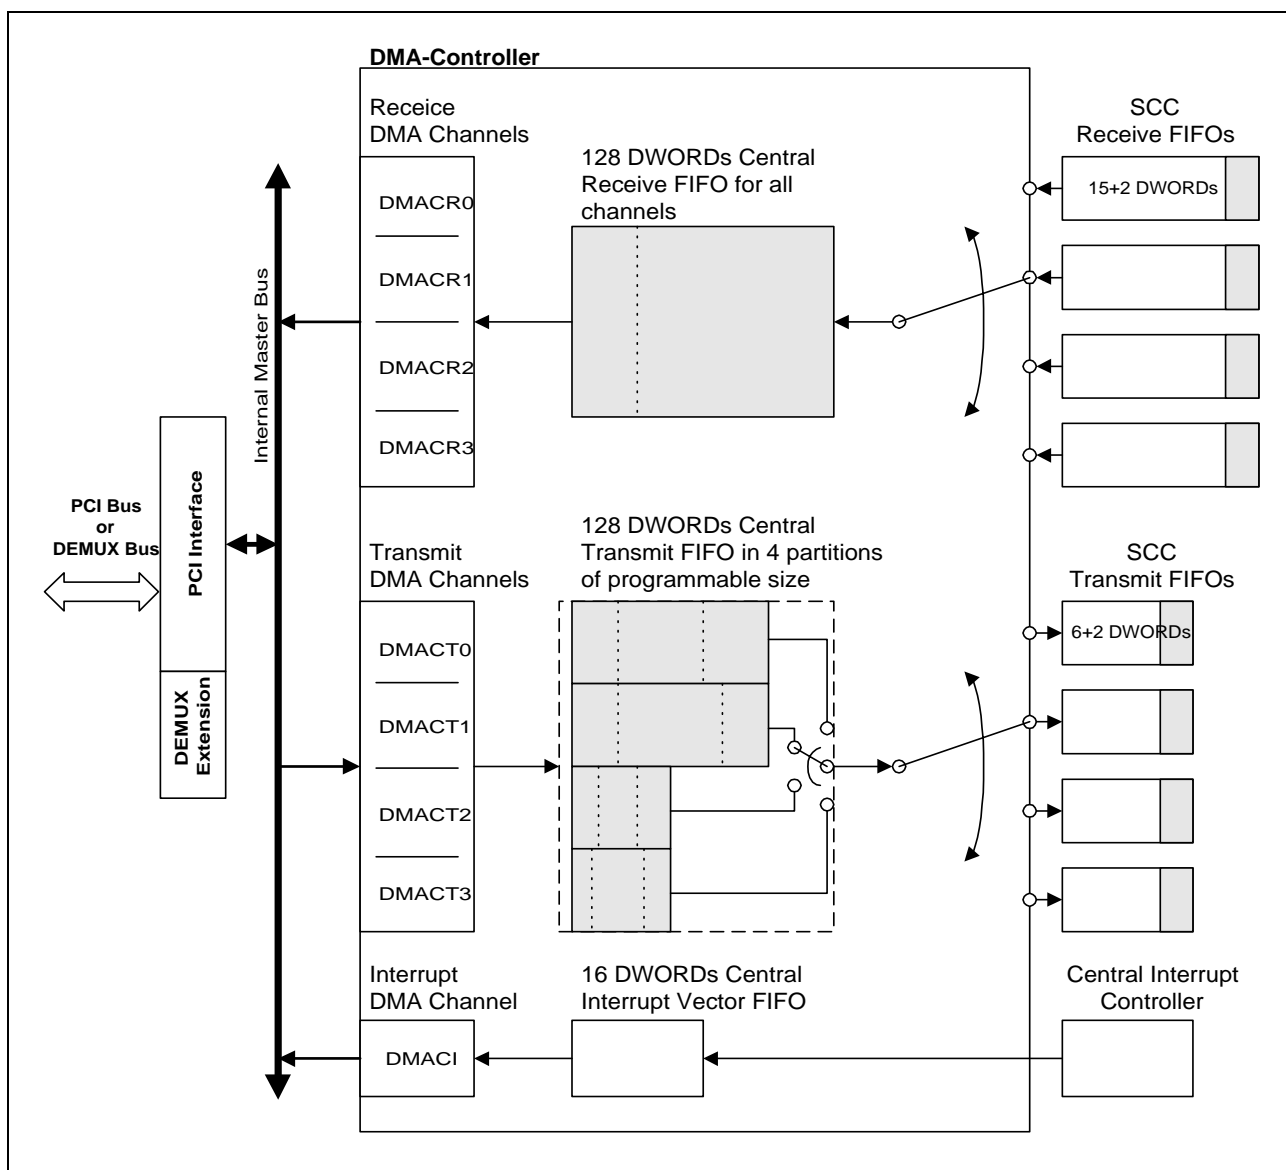

Figure 11 DMA Controller Block Diagram
**Figure 11** shows the block diagram of the DMA Controller.